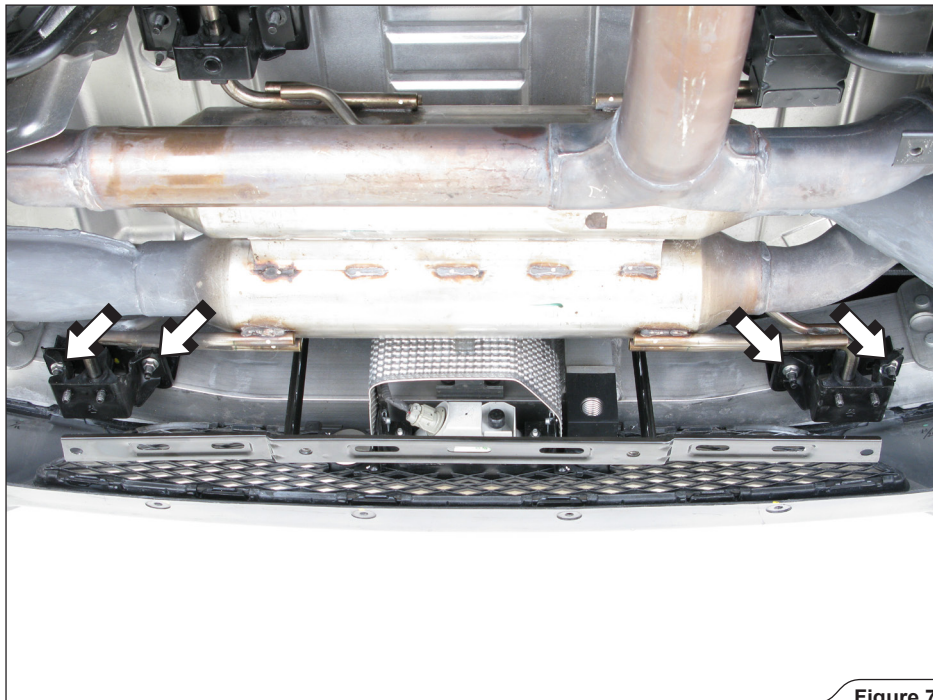

Figure 7
5. **For Slip-On and Evolution:** unscrew the marked rubber brackets and remove the rear part of the stock exhaust (**Figure 7**).